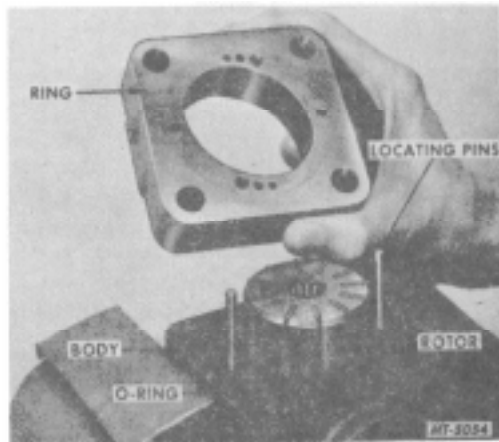

Fig. 9
4. Lift off the ring and remove the locating pins, Fig. 9.